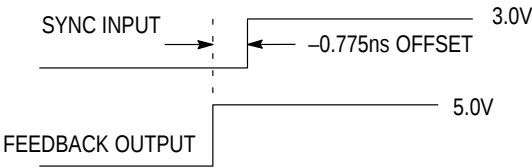

Figure 2. Depiction of the Fixed SYNC to Feedback Offset (t_{PD}) Which is Present When a 470KΩ Resistor is Tied to VCC or Ground
- A 1 MΩ resistor tied to either Analog V_{CC} or Analog GND as shown in Figure 2 is required to ensure no jitter is present on the MC88915 outputs. This technique causes a phase offset between the SYNC input and the output connected to the FEEDBACK input, measured at the input pins. The t_{PD} spec describes how this offset varies with process, temperature, and voltage. The specs were arrived at by measuring the phase relationship for the 14 lots described in note 1 while the part was in phase-locked operation. The actual measurements were made with a 10 MHz SYNC input (1.0 ns edge rate from 0.8 V – 2.0 V) with the Q/2 output fed back. The phase measurements were made at 1.5 V. The Q/2 output was terminated at the FEEDBACK input with 100Ω to V_{CC} and 100 Ω to ground.